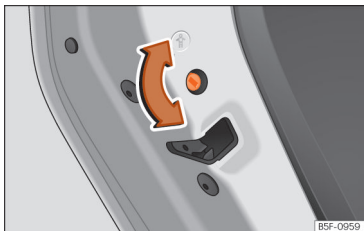

Fig. 89 Childproof lock on the left hand side door.
- With the door open, rotate the groove in the door using the ignition key, clockwise for the left hand side doors »» Fig. 89 and anti-clockwise for the right hand side doors.
- With the door open, rotate the groove in the door using the ignition key, anti-clockwise for the left hand side doors »» Fig. 89 and clockwise for the right hand side doors.